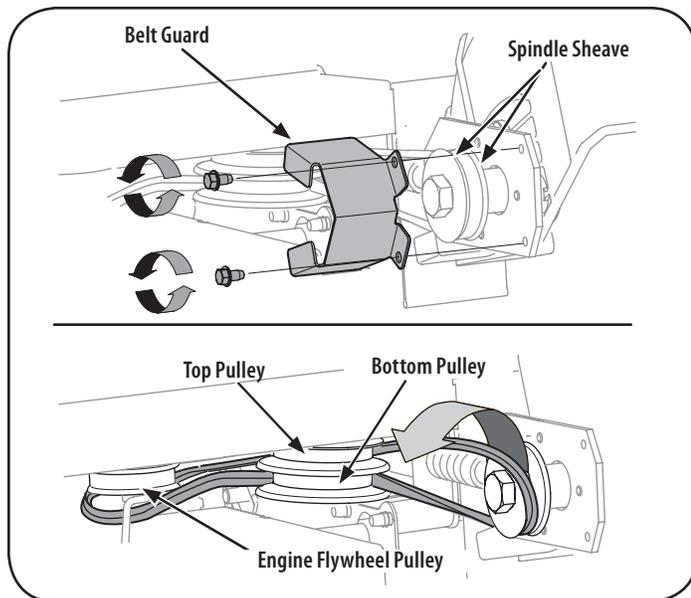

Figure 16
**NOTE:** Make certain that drive belt is seated correctly on blade spindle and that it is riding smoothly on spindle sheaves (see Figure 16) and is not pinched between them. Repeat first three steps if belt is pinched.
**NOTE:** Make certain that the drive belt is seated correctly on the blade spindle and that it is riding smoothly on the spindle sheaves (see Figure 16) and is not pinched between them. Repeat the first three steps if the belt is pinched.
3. Remove the spindle sheaves belt guard by removing the two self-tapping screws which secure it to the blade plate assembly. See Figure 16.
4. Carefully remove the belt from off of the pulleys, again making sure to note the orientation of the belt. Discard the belt. See Figure 16.
**NOTE:** Make certain that the “V” side of the belt is seated into the top pulley and the flat side of the belt is seated into the bottom pulley. See Figure 16.